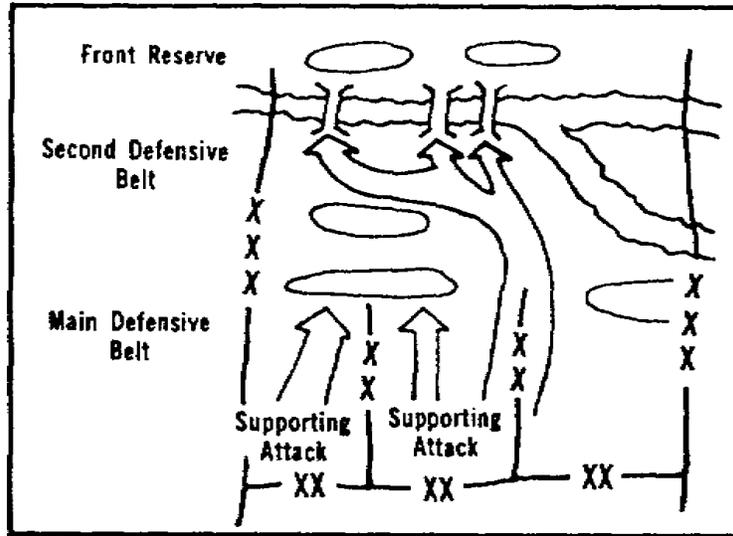

Figure 1-19. General turning movement
d. Movements (App B, p B-54). There are two basic types or classifications of movements: general and specific. General movement symbols use boundaries, while specific symbols control direction. Figure 1-19 shows the symbology used to depict a general turning movement.